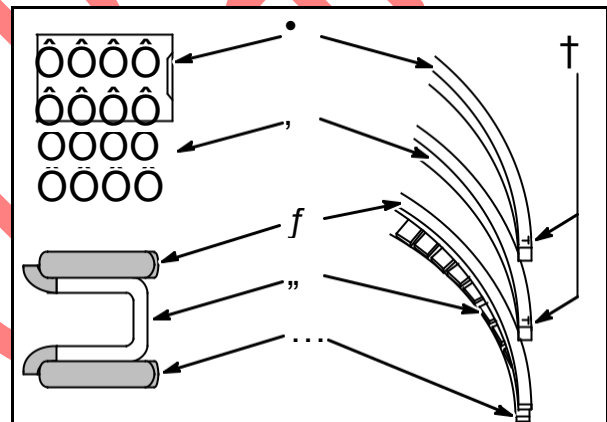

Fig. 10
Install rings in order shown, **Fig. 10**. Use Piston Ring Expander, #19340 when installing center (2) and top (1) compression rings.